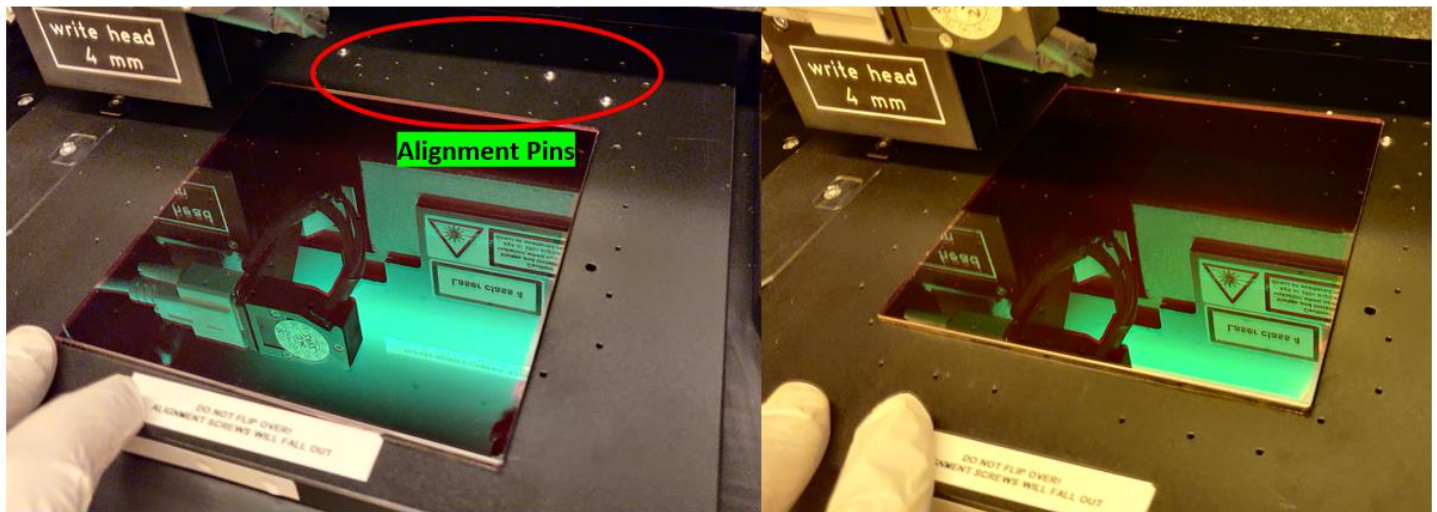

Figure 8
33. On the front of the machine, use the toggle button to open the window (Figure 8). Once open, turn the light on by toggling the switch. The light and switch are mounted to the roof inside the machine.
34. Next, it is important to select the stage according to the substrate. We have different stage for 4-inch mask, 5-inch mask and wafers. To remove the stage, simply slide it out and pick it up. Stages can be found in a drawer below the oven on the left shelf. To put the desirable stage, just slide it in place. (Figure 8)
36. Turn the vacuum on by rotating the knob (figure 8) and make sure the sample is hard to move. Close the window by toggling the button in front of the machine.